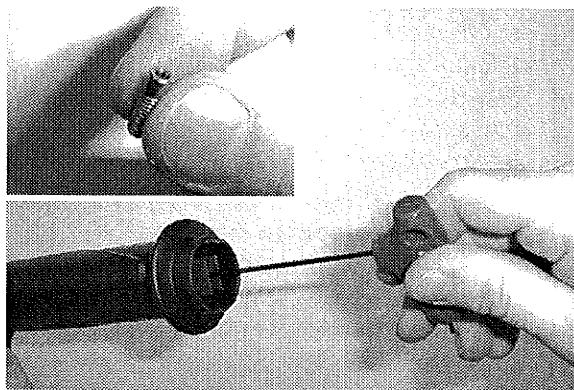

FIG. 43
9. Inspect spray gun pattern. Clean or replace orifice if spray pattern will not pin-point. Use a 5/64" Allen wrench to remove orifice (Figure 43).